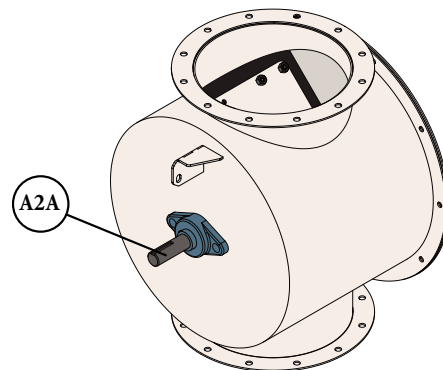

FIG. 2
On the Air Lock Assembly (A) make sure the end of the Rotor Shaft (A2A) is clean and free of damage [FIG. 2].